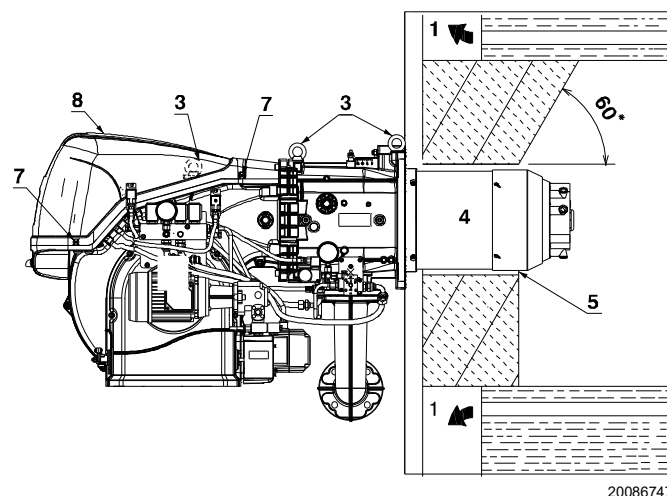

Fig. 16
For boilers with front flue passes 1)(Fig. 16) or flame inversion chamber, a protection in refractory material 5) must be inserted between the boiler fettling 2) and the blast tube 4).
For boilers with a water-cooled front piece, a refractory lining 2)-5)(Fig. 16) is not necessary, unless expressly requested by the boiler manufacturer.
Prepare a suitable lifting system using the rings 3)(Fig. 16), after removing the fixing screws 7) of the casing 8).
- Fit the heat insulation supplied onto the blast tube 4)(Fig. 16).